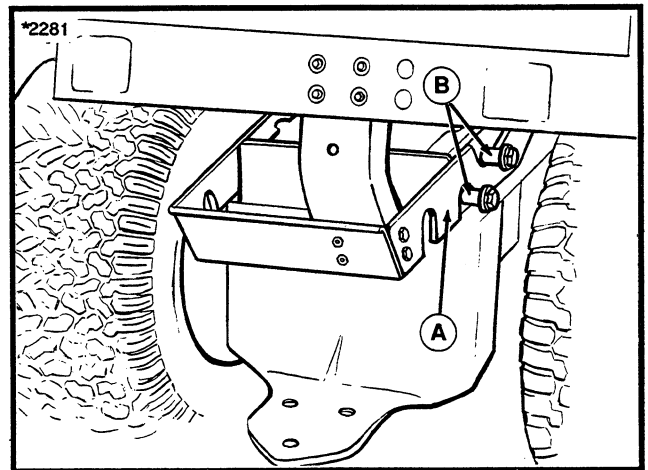

Figure 3.
4. Install bracket assembly to rear frame by tipping assembly upward and positioning notches on side plates (A, figure 3) on spacers (B). Lower assembly and make sure that bracket assembly is securely seated on front and rear spacers. Tighten all bracket hardware securely after checking fitment on frame.